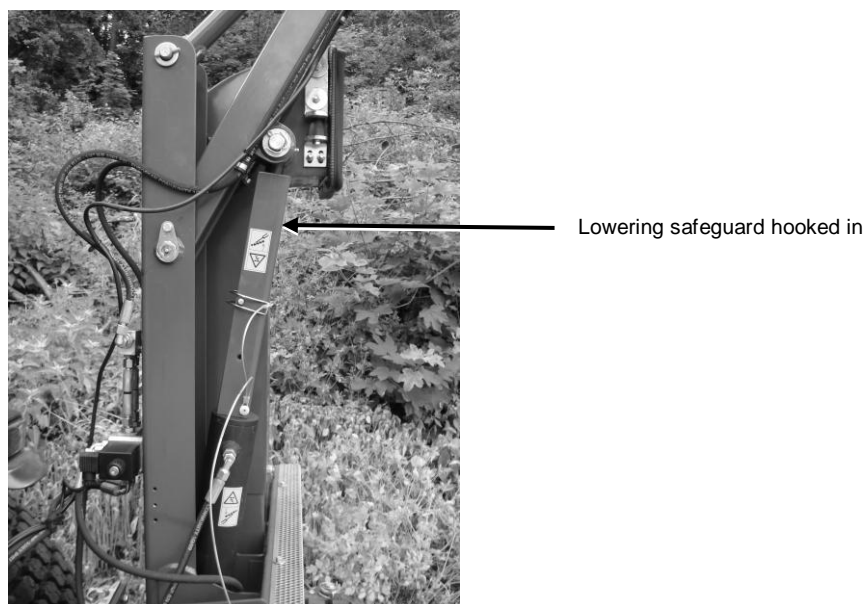

Fig. 61: Lowering safeguard in *secured position*
2. Hook the lowering safeguard onto the appropriate bolt to safeguard the bin against unintended lowering (see Fig. 61).